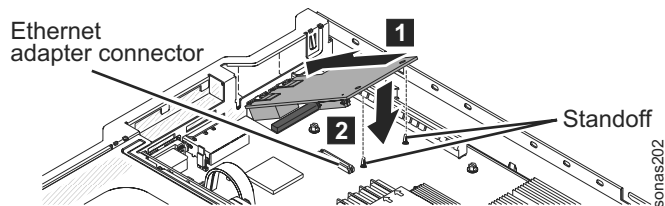

Figure 16. Aligning the Ethernet adapter port connectors with the port openings
10. Align the adapter with the adapter connector on the system board; then, tilt the adapter so that the port connectors on the adapter line up with the port openings on the chassis. See Figure 16.